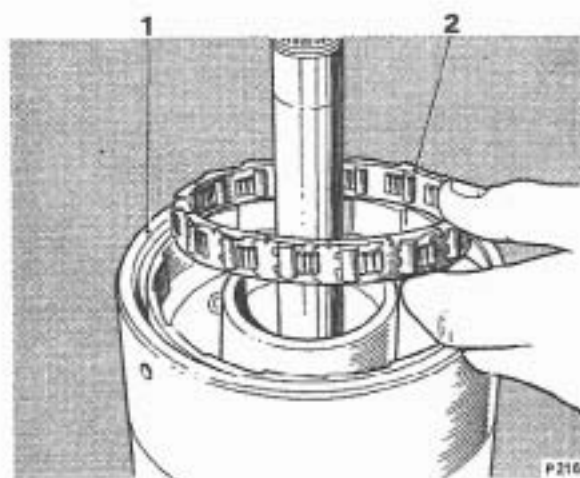

FIG. T284 FITTING THE ROLLER CLUTCH ASSEMBLY TO THE REACTION CARRIER (ROLLER CLUTCH)
30. Fit the roller clutch assembly into the reaction carrier (see Fig. T284).